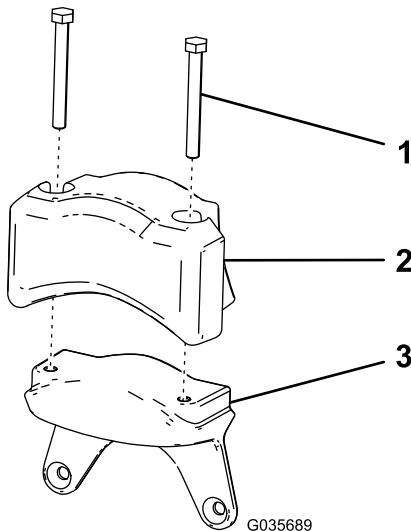

Figure 8
- Assemble the electric counterweight and 2 cap screws (5/16 x 2-3/4 inches) that you removed in Removing the Electric Motor Counterweight \(page 4\) to the new weight (Figure 8).